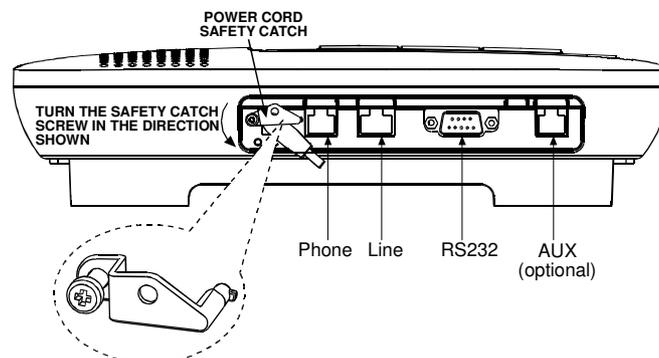

Figure 3a
Connect the Unit to your Telephone Line (Figs. 3a and 3b)*
Note: Be aware of other phone line services such as DSL. If DSL service is present on the phone line, you must install a filter. See Figures 3a and 3b for proper installation.
2. Insert the safety catch tab horizontally into the hole to the right of the power cord plug, as shown in Figure 3a.
3. Turn the safety catch screw, observing the polarity of the arrow in Figure 3a, until facing the other hole. Then secure the screw.